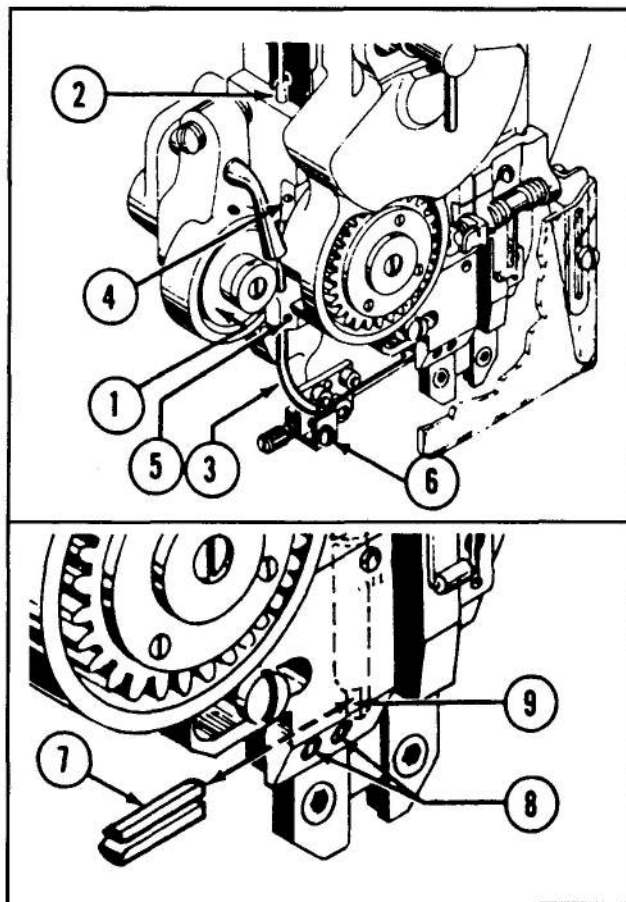

Figure 17 — Inspecting Wire Feed Gears, Tubes, and Stationary Cutter
a. **WIRE FEED GEARS** (See Fig. 17)—The wire feed gears (Fig. 17 shows the left, or idler, gear (1), the right, or drive, gear being located behind the wire feed guard) should be checked for smooth and parallel wire gripping surface. Worn surfaces may result in wire slipping thereby not feeding properly; if surfaces are not parallel, wire may be rolled on one side causing wire curvature and resulting in imperfect stitches.
b. **WIRE FEED TUBES** (See Fig. 17)—The upper and lower wire tubes, (2) and (3), should be checked for any obstructions in the tube passages which may interfere with free movement of wire. Slots may eventually appear in tube passages, due to normal wear, which will cause the wire to catch and bind, thereby resulting in improper feeding.
c. **STATIONARY CUTTER** (See Fig. 17)—The stationary cutter (7) should be periodically checked for any obstructions in the wire passage which may interfere with free movement of wire. Check that cutting end is sharp; dull cutter may be resharpened, but eventually must be replaced.